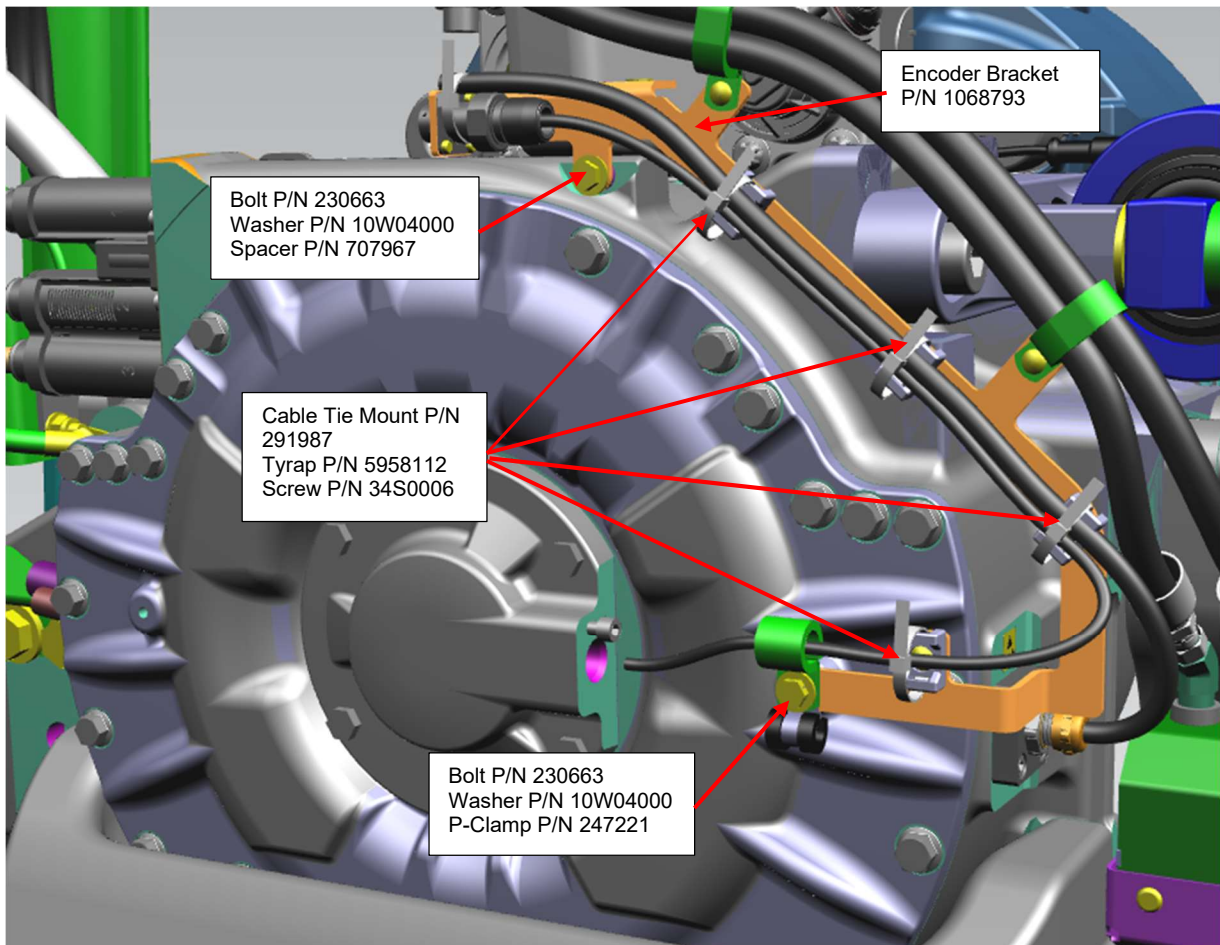

Figure 3: New Streetside Encoder Bracket Installation.
6. Install a new encoder bracket NF P/N 1068793 on the streetside of the axle using two bolts NF P/N 230663 bolts, two washers NF P/N 10W04000. A spacer NF P/N 707967 is required between the encoder bracket and the axle motor casing on the upper bolt. Install a p-clamp NF P/N 247221 under the lower bolt to secure the speed sensor cable Figure 3.